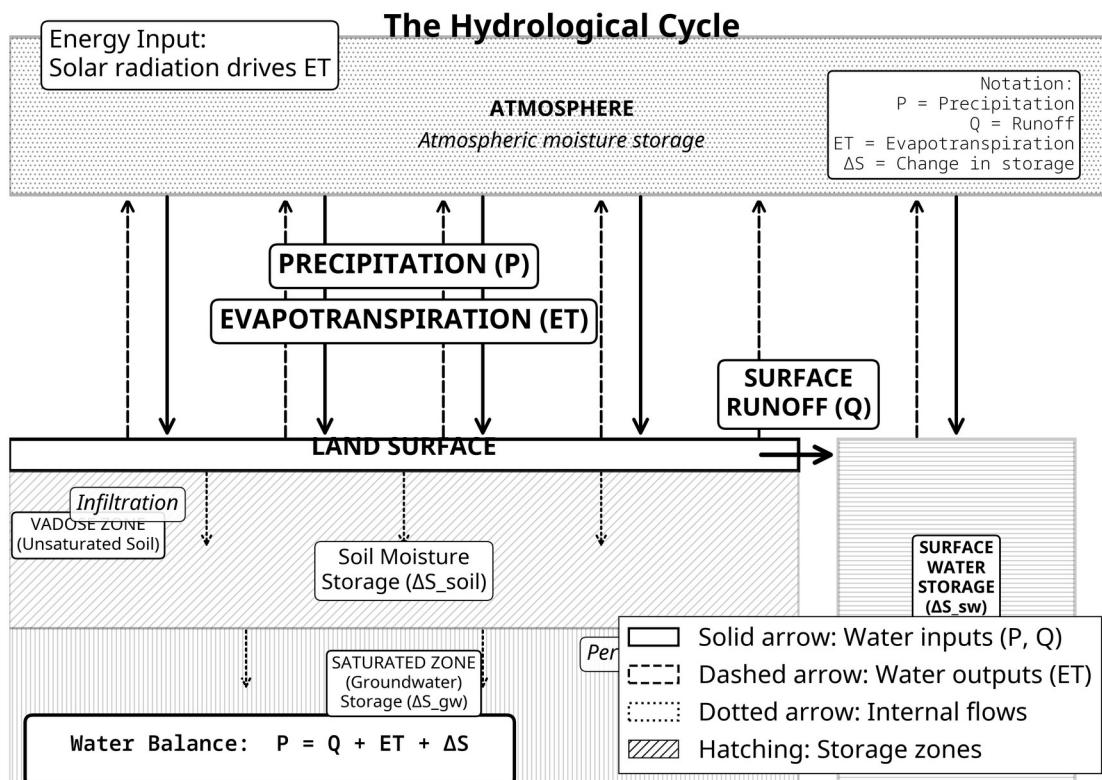

Figure 1.1: The Hydrological Cycle
**Figure 1.1:** The hydrological cycle showing the major water fluxes (precipitation, evapotranspiration, runoff) and storage components (soil moisture, groundwater, surface water). The water balance equation quantifies these flows.